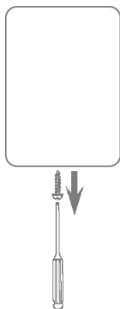

Figure 1
1. Open the cover by twisting a screwdriver in the slot on the bottom of the case (see Figure 1).